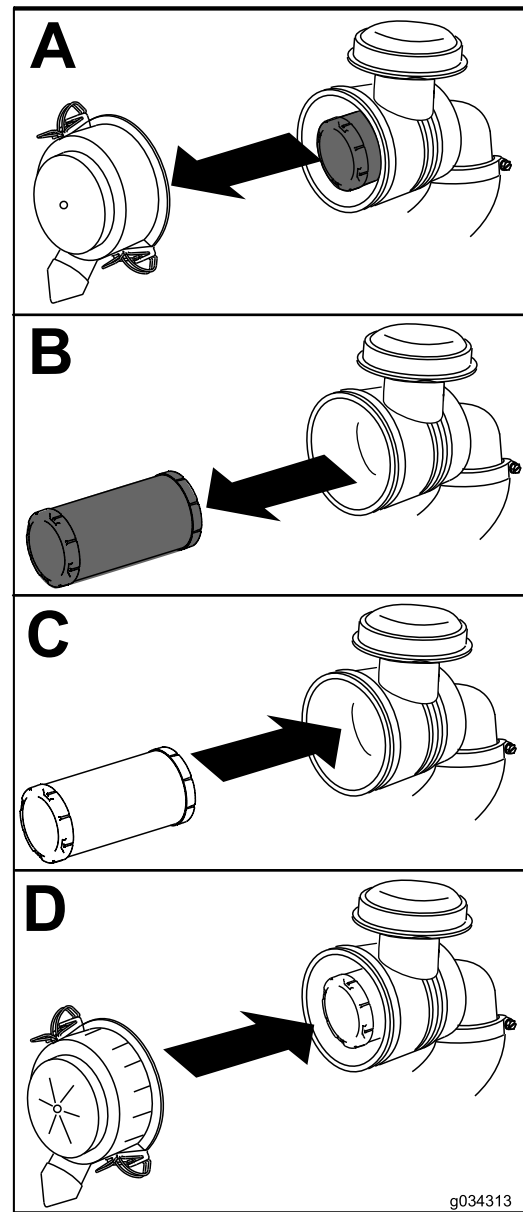

Figure 41
1. Gently slide the air-cleaner element out of the air-cleaner body (Figure 41).
4. Install the air-cleaner cover with the side indicated as UP facing upward and secure the latches (Figure 41).